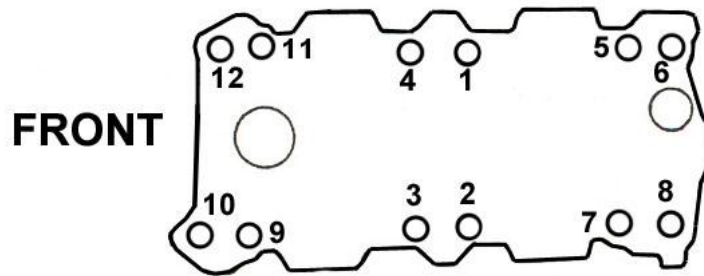

Figure 2
24. Tighten the bolts to 15 ft./lbs. and progress to 25 ft./lbs. in 5 lb. increments. Note the torquing sequence in Figure 2. Retighten the valve cover.